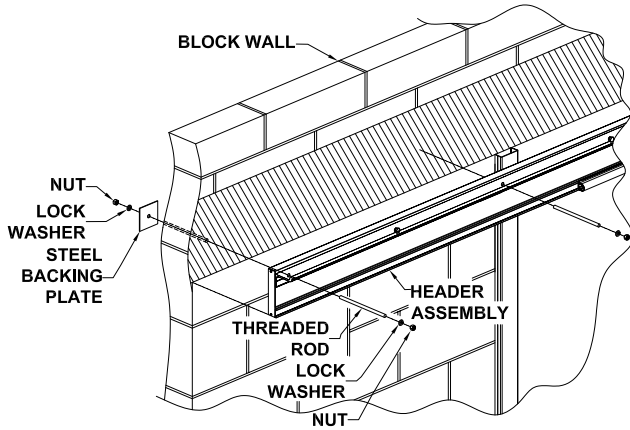

Figure 7: Mounting detail - Block
1. For the Header Frame, drill holes into wall through the existing holes in the Header Extrusion and attach to wall using 1/2" through bolts or rods. Using 1/2" bolts or rods in all available holes is required (See Figures 7 & 8).